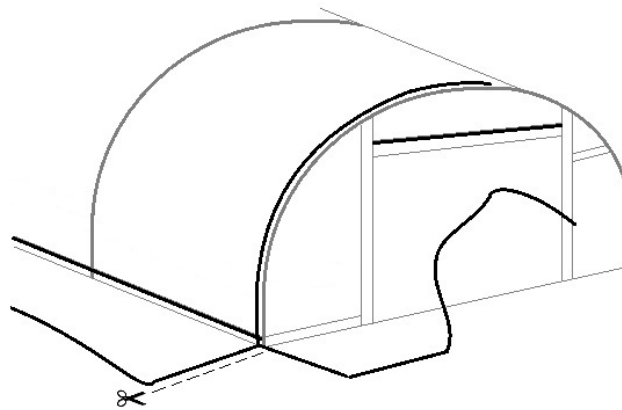

Fig111
- **STEP 3:** With just the four corners and the door frames left, it will now be necessary to cut the polythene at the corners, but **ONLY** below the base/side rails, to allow the cover to come smoothly around the ends (**Fig111**). It is important that the cover is cut in line with the end of the tunnel, **NOT** the length.